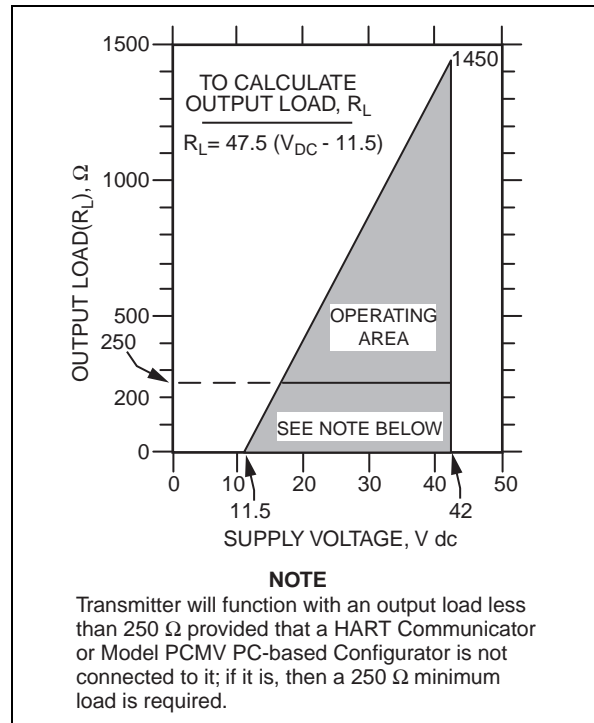

Figure 11. 4 to 20 mA Output, Supply Voltage vs. Output Load
HART 4 to 20 mA output with a superimposed digital signal. Minimum supply voltage is 11.5 V dc (Figure 11).
- (g) See Figure 11 for minimum load required for proper HART communication.